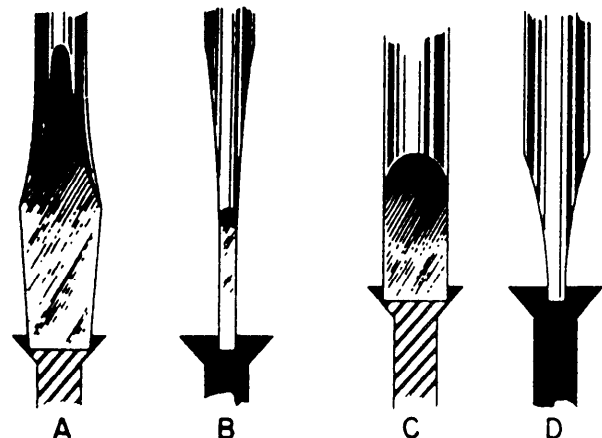

Figure 5-26.—Shapes of screwdrivers when properly dressed.
- **Screwdriver tips:** Figure 5-26, views A and C, are the front views of a properly dressed common
Next, grind the faces of the blade so they are parallel at the tip as shown in views B and D of figure 5-26. The thickness of the blade at the tip should be such that the tip will just enter the slot of the screw you intend to turn. With such a tip thickness, and the sides parallel, the screwdriver will have the least tendency to climb out of the screw slot when the screw is being turned. When grinding, do not let the tip get too hot or it will be softened.